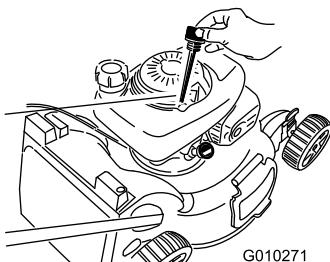

Figure 40
6. Remove the dipstick from the oil-fill tube (Figure 40).